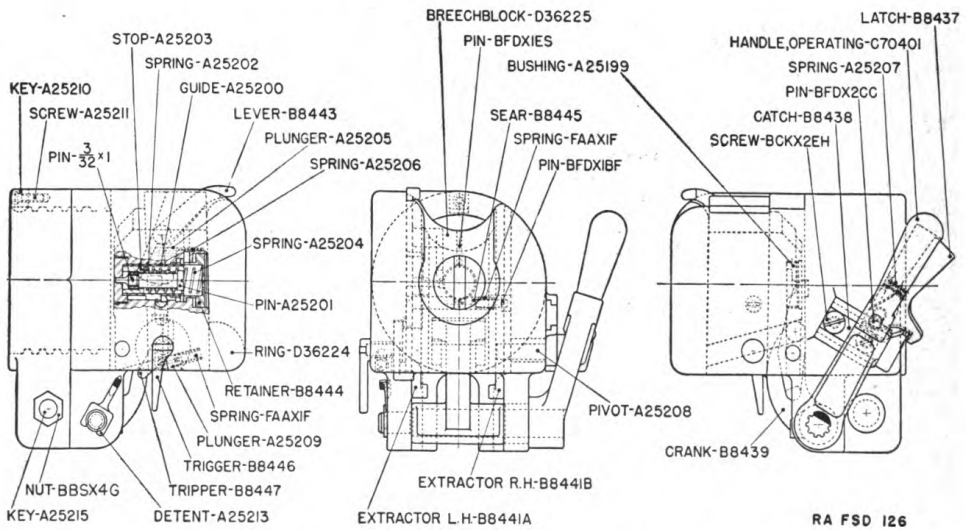

FIGURE 5.—37-mm gun, M3—breech mechanism.
13. Disassembly or firing mechanism from breechblock.—*a.* With the chamber empty, close the breech and pull the trigger (B8446, fig. 5). Press the firing spring retainer (B8444) in against the firing spring (A25204) and rotate the firing spring retainer one-quarter turn to remove the pressure. The firing spring will force the firing spring retainer out. The firing spring (A25204) firing pin, and allied parts may then be ejected by throwing the firing pin cocking lever (B8443) forward.
b. To remove breechblock and operating mechanism.—(1) Remove the operating handle detent (A25213, fig. 5) by springing its knurled end out of its seat in the outer side of the left hand breech ring lug and rotate the detent in a clockwise direction until the knurled end passes off the surface of the lug. Grasp the knurled end by the fingers and pull out the detent.
(2) Support the breechblock from below with the left hand, with the right hand depress the operating handle latch (B8437, fig. 5), and draw out the operating handle to the right. Raise the breechblock slightly and reach under the breech with the right hand and pull the operating crank (B8439) from between the breech ring lugs. Lower the breechblock about 1 inch, to allow the operating crank trunnions to slip out of their slots in the breechblock, and withdraw the operating crank.
14. Disassembly of firing mechanism from breech ring.—*a.* Reach into the breech recess from below, grasp the sear tripper (B8447, fig. 5) with the fingers, and pull it to the right to withdraw it from the trigger hub.
b. Insert the tip of the right forefinger upward between the trigger (B8446, fig. 5) and trigger plunger (A25209) and press the trigger plunger rearward to free the lug on the trigger. Holding the trigger plunger depressed, pull the trigger out to the left. The compression spring (FAAX1F) will force out the trigger plunger, which should be caught in the hand. The spring may be removed by means of a piece of wire or the tang of a small file.
b. Remove the safety nut (BBSX4G) from the coupler key (A25215, fig. 5) and push the key (A25215) from its seat in the breech ring lugs and the recoil piston rod.
17. Assembly of firing mechanism into breechblock.—*a.* Set the breechblock (D36225, fig. 5) upright, with the T-slot at the bottom. Place the compression spring (sear) (FAAX1F) over the small end of the sear (B8445) and insert the sear and spring in the slotted left end of the transverse hole in the breechblock. Aline the arm of the sear with the slot and press the sear through against the spring until the pinhole through the small end of the shaft is exposed on the right side of the breechlock. Insert the sear retaining pin (BFDX1BF) through this hole, letting the ends project equally on both sides of the sear; then release the pressure on the sear, which will allow the pin to enter the counterbore in the breechblock.
b. Insert the cocking lever plunger spring (A25206, fig. 5) into its hole in the rear face of the recess in the left side of the breechblock. Press the cocking lever plunger (A25205) into the hole, flat end against the spring, and insert the firing pin cocking lever (B8443) into the recess, with the short arm downward and apron in front of the plunger.
18. Assembly of firing mechanism into breech ring.—*a.* Insert the trigger spring (FAAX1F, fig. 5), then the trigger plunger (A25209), into the hole in the rear face of the trigger notch in the lower left cheek of the breech ring. Press the plunger (A25209) into the hole with the nail of the right forefinger and slide the trigger hub into the hole at the top of the notch until the shoulder of the lever contacts the cheek of the ring; then release the plunger.
b. From inside the breech recess, insert the shaft of the tripper (B8447) into the hub of the trigger (B8446, fig. 5) with the short arm of the tripper vertical. Slide the trigger shaft through until the flattened end enters the slot in the trigger hub, and the lever of the tripper bottoms in its recess inside the breech ring.
c. To assemble the extractors, slide the extractors (B8441A and B, fig. 5) into their pivots inside the lower front corners of the breech recess, long arms upward and lips projecting toward the chamber.
19. Assembly of breechblock and operating mechanism to gun.—*a.* The preferred assembly is to bring the breechblock into the breech recess from below, before assembling the firing pin (A25201) and guide (A25200, fig. 5), firing spring (A25204) and retainer (B8444) into the breechblock.
b. Swing the extractor upper arms rearward to the limit of throw. Press the firing pin cocking lever (B8443, fig. 5) forward as far as it will go and insert the top of the breechblock into the bottom of the breech recess. Slide the breechblock upward and hold with the rear end of the T-slot exposed below the breech ring.
c. Slide the trunnions of the crank (B8439, fig. 5) into the T-slot from the rear, with the convex curve of the crank to the rear. Push the breechblock upward to approximately closed breech position with the left hand and swing the hub of the crank into position between the lugs on the bottom of the breech ring. Support the breechblock and crank with the left hand and with the right hand enter the shaft of the operating handle through the right hand lug into the hub of the crank. Shift the left hand to the crank hub and with the right hand rotate the handle to approximately 30° forward from vertical position to aline the splines of the handle shaft and crank hub. Adjust the axial alinement of the crank hub as required with the left hand and slide the handle shaft to the left through the hub and left hand lug to assembled position, rotating the handle rearward to clear the catch. Throw the operating handle forward to engage the catch.
d. Slide the forked end of the detent (A25213, fig. 5) horizontally into the groove in the left end of the handle shaft, with the knurled side of the tip outward. Spring the tip slightly outward and rotate the detent counterclockwise about the shaft until the hub enters its seat in the lug, completing the assembly.
a. Assembly of the firing pin and guide.—(1) Insert the stop into the firing pin guide, pronged end first, and rotate until the prongs enter and protrude through the holes in the end of the guide.
(2) Place the retracing spring on the body of the firing pin and screw the firing pin into the guide through the rear end until the shoulder on the pin contacts the forward end of the guide on the inside. The point of the firing pin and the prongs of the stop will then protrude from the forward end of the guide. If the transverse locking pin holes in pin and guide are not in alinement, screw the firing pin backward, not to exceed one-half turn to aline the holes.
(3) Insert the locking pin through firing pin and guide. This pin should not protrude on either side of the guide.
b. Insert the firing pin (A25201, fig. 5) and guide (A25200) into the rear end of the firing pin hole in the breechblock, firing pin point first, and exterior lugs on bottom and left side of the guide in alinement with the grooves in the bore. Pull and hold the trigger (B8446) and push the pin and guide forward until it contacts the breechblock bushing (A25199); then release the trigger.
c. Place the firing spring (A25204, fig. 5) inside the guide, about the firing pin. Place the cupped end of the retainer (B8444) over the rear end of the spring, and insert the retainer into the firing pin hole of the breechblock with the arrows in the slot of the head approximately horizontal. With one hand press the retainer head forward against the spring until the top of the head is approximately one-eighth inch below the surface of the block and rotate it until the arrows are in alinement with the arrow on the face of the block; then release the pressure.
b. The firing mechanism may or may not be completely assembled into the breechblock prior to this operation. With the breechblock removed from the gun, proceed as in paragraph 20 *a*, *b*, and *c*, pressing the arm of the sear (B8445, fig. 5) into its recess instead of holding the trigger (B8446) to permit pushing the firing pin (A25201) and guide (A25200) forward to the breechblock bushing (A25199).
22. Disassembly of recoil mechanism.—Uncouple the gun by removing the safety nut (BBSX4G) and coupler key (A25215, fig. 5). Drain all oil from the recoil cylinder into a clean receptacle. Remove the recoil cylinder front head (B156653, fig. 7). Insert the piston rod removing spacer (A165919) (accessories) on the counterrecoil buffer (A163949) between head (B156653) and piston valve (A163950) and reassemble the recoil cylinder head. This will force the coupler (B153762) sufficiently to the rear to remove pin (BFDX1EU); unscrew the coupler from the piston rod. Attach the piston rod puller to the piston rod. Place a bar through the loop of the piston rod puller and with a man on each end of the bar keep the counter-recoil spring (A163742) under compression and remove the recoil cylinder front head (B156653). Gradually release the counterrecoil spring pressure. With the spring pressure released, unscrew the loop end on the puller and remove the piston and rod and counterrecoil springs from the recoil cylinder. Remove the end of the puller attached to the piston rod.
32. Removal of gun and sleigh from recoil mechanism.—Remove safety nut (BBSX4G) from coupler key (A25215, fig. 5). Remove the coupler key. Slide the gun and sleigh to the rear on the slide of the recoil cylinder and remove.
33. Assembly of gun and sleigh to recoil mechanism.—Slide the gun and sleigh forward on the slides of the recoil cylinder and secure with coupler key (A25215, fig. 5) inserted through the recoil piston rod and breech ring lugs. Assemble safety nut (BBSX4G) to the coupler key.